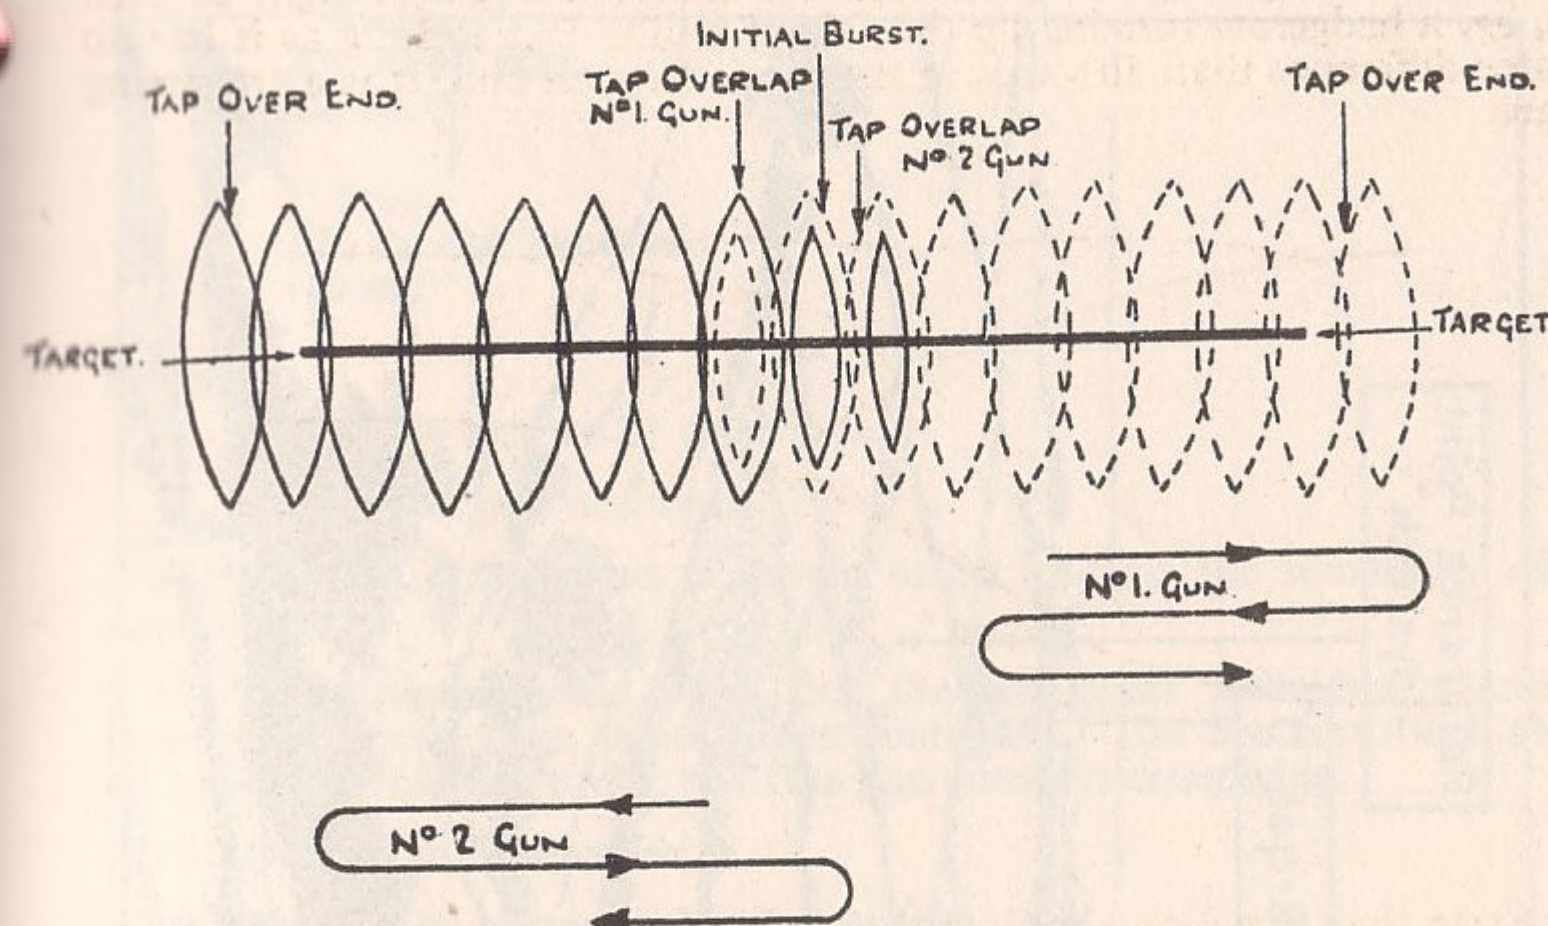

FIG 22
5. Select suitable targets on the landscape target. Prepare blackboard with diagrams as given in Fig 22.
Each gun is then tapped one tap outwards, the line of sight relayed and fired again. This process is continued until the guns reach the end of the target. They are then tapped one tap outside of the ends to cover errors in direction and then traversed back to the centre. To ensure the overlap of the beaten zones at the centre, each gun is tapped one tap over the centre (see Fig 22). The line of sight is re-aligned onto the target after each tap.